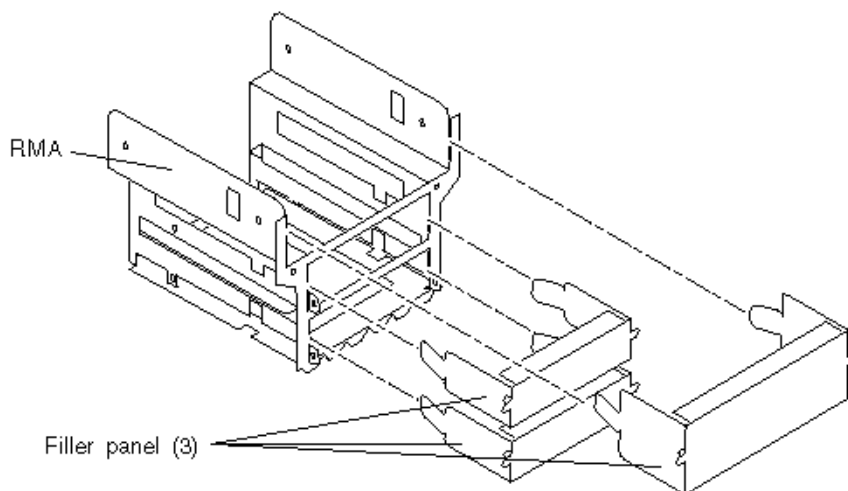

Figure 8-6 Removing and Replacing the RMA EMI Filler Panel
4. Use your fingers to pop the drive tray EMI filler panel from the drive tray (Figure 8-6).
1. **Position and snap the EMI filler panel into the RMA (Figure 8-6).**